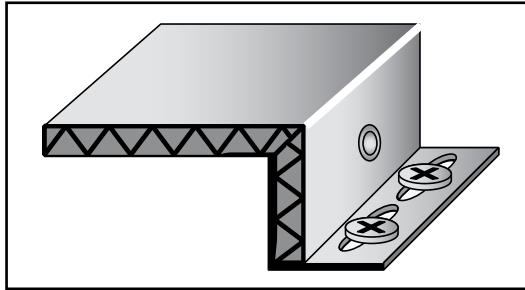

Figure 12
**Figure 12** shows a close-up of a clip fastened to the wall with either pan-head or waffle-head screws.